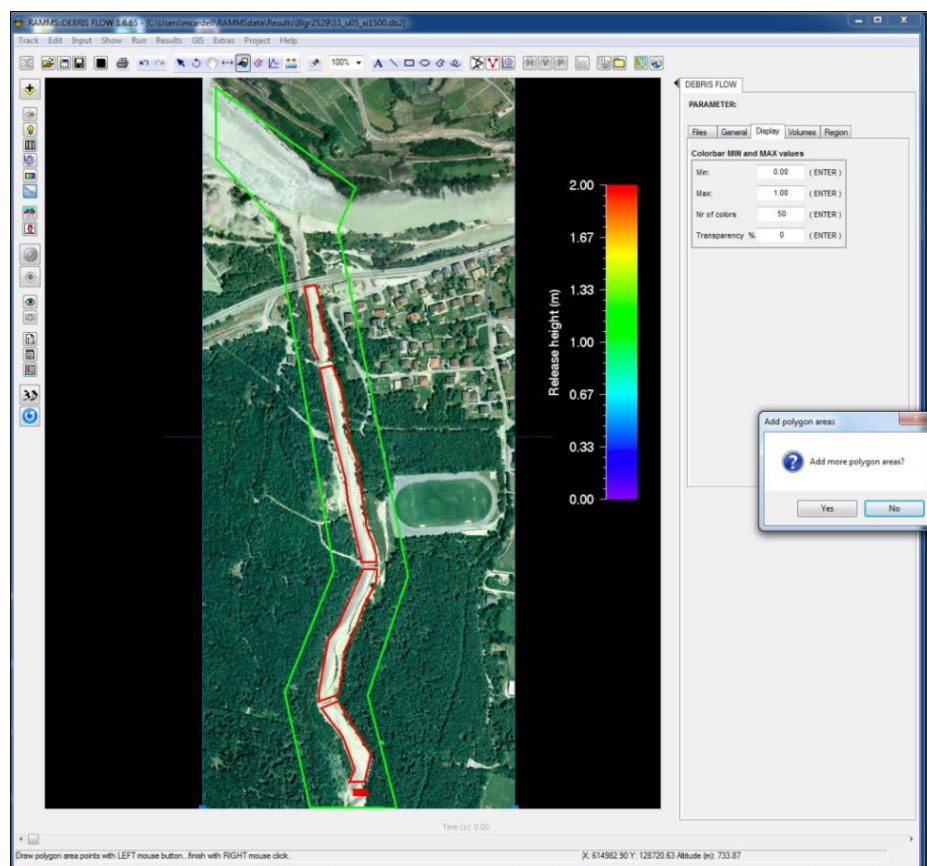
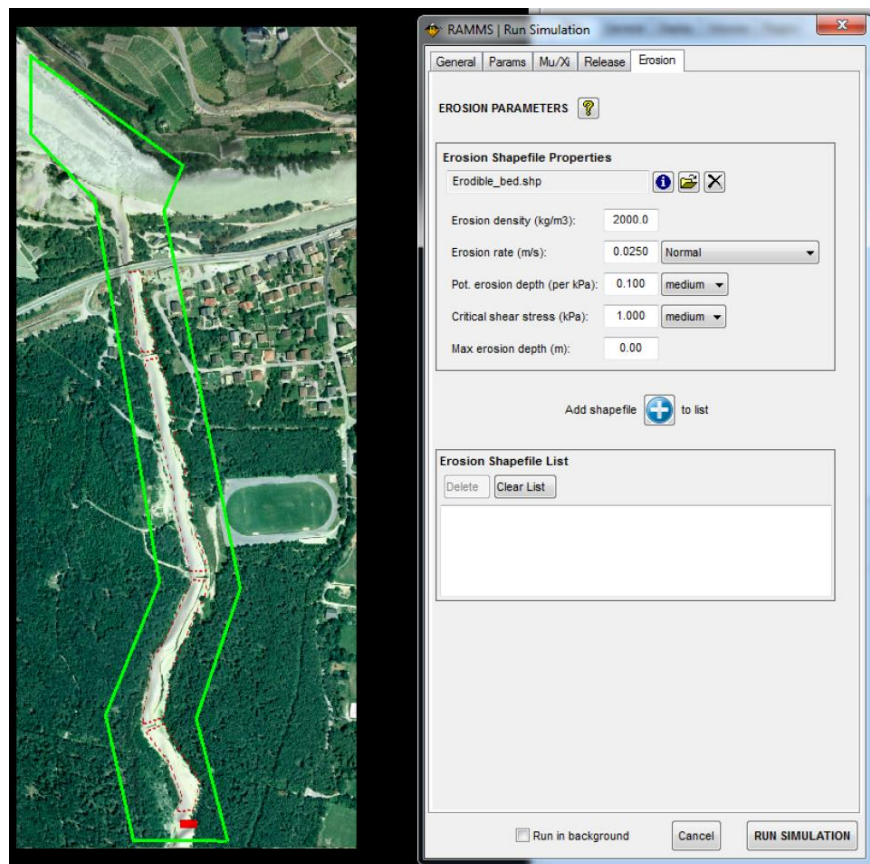
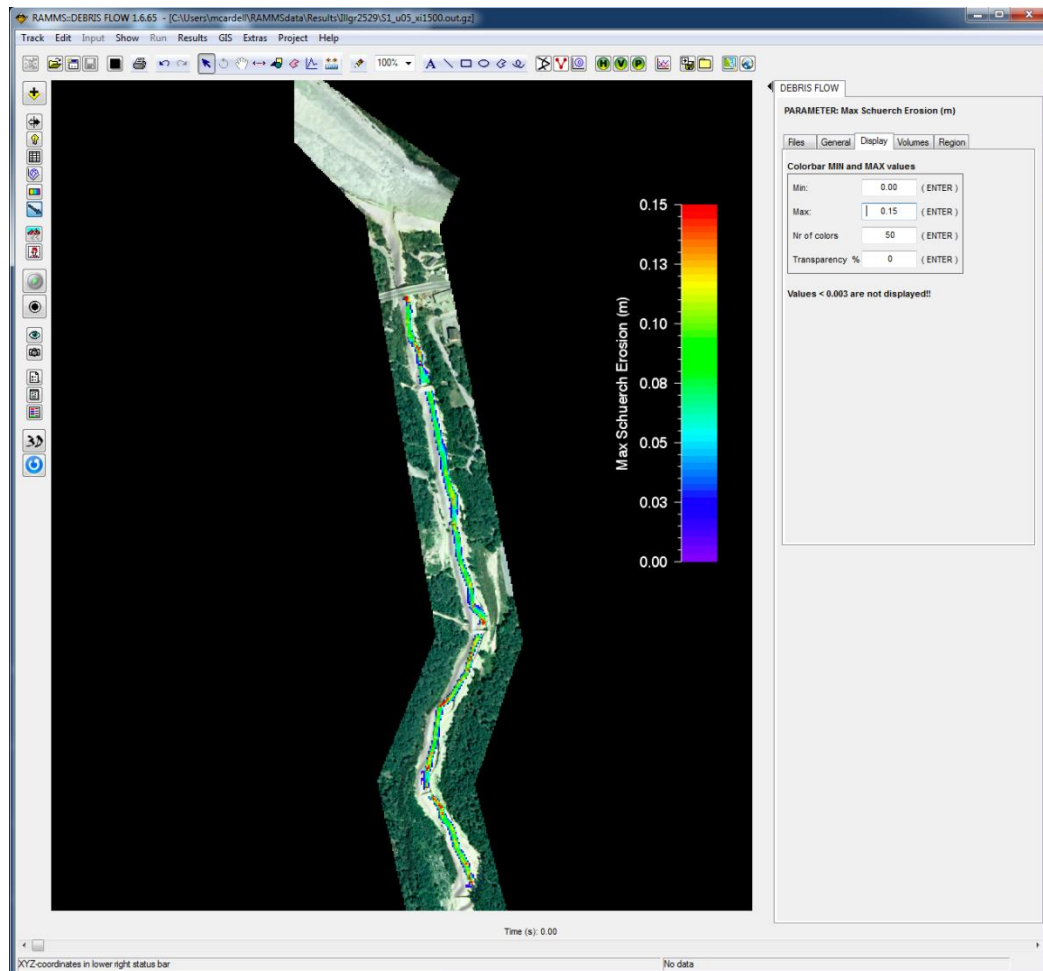

Figure 5-4: Adding erosion polygon areas.
Figure 5-5: Erosion parameters.
Figure 5-6: Simulated channel-bed erosion.
Step 2: Define where erosion can take place. Select the menu option **Input** → **Polygon shapefile** → **Draw New Polygon Shapefile** and draw the first polygon. After closing the first polygon with a right-mouse-click, choose the option **Add polygon areas**, and repeat this procedure until all desired polygons have been drawn. After adding the final polygon (in this case the fourth one) click on the “No” button and name the polygon (Figure 5-4). Once this step is completed, the erosion properties within this shapefile can be set in a different dialog box (Step 3, Figure 5-5). Although not illustrated here, it is possible to create multiple shape files with different erosion parameters within each shape file.
Step 3: Set erosion parameters. To set the erosion parameters used during the simulation, select **Run** simulation and then click on the **Erosion** tab. Click on the folder icon and select the polygon shapefile (in this case *erodible\_bed.shp*, Figure 5-5). After selecting the erosion parameters, click on the button **Add shapefile to list**. The shapefile and values are added to the list. You can delete the whole list, or remove single entries from the list. It's not possible to edit an entry (remove the entry, and create a new entry).
The predicted channel-bed erosion for this case is illustrated in Figure 5-6. Here one can clearly see (in comparison with Figure 5-4) that erosion has taken place only within the user-specified polygons within the erosion shape file, and not on the check dams separating the individual polygons.